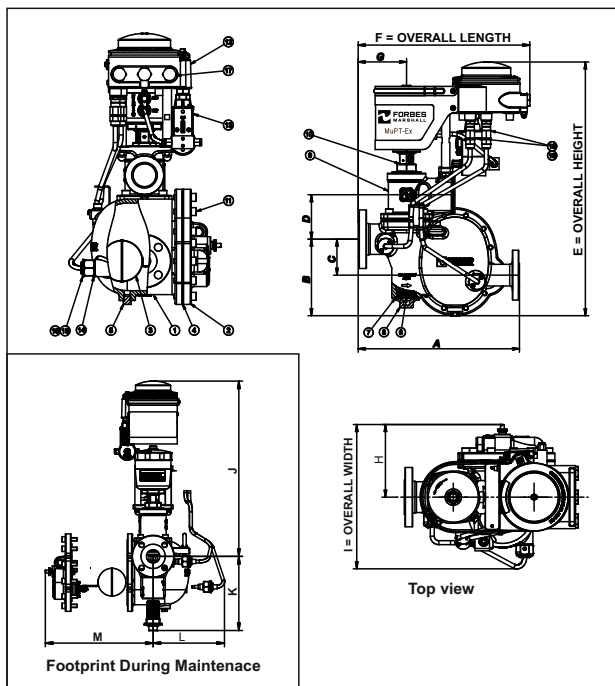

Fig.3.2
The MuPT-Ex is an integrated steam trapping and condensate recovery solution including a diverting & trapping system and controlling & monitoring system specifically developed for multi-utility process equipment in API Pharma/Chemical industries. Product is developed to remove condensate from the process downstream as well as divert contaminated condensate. There is a sensing element (15) (refer fig 3.2) provided to check the quality of condensate continuously reaching the inlet of the product, which helps in the detection and diversion of contaminated condensate and recovery of quality condensate. This Sensor 1 (15) measures the TDS and temperature of incoming media, be it condensate or utility. Based on the measured parameters, the control unit decides to either recover the uncontaminated condensate or bypass utilities and uncontaminated condensate. This improves the overall condensate recovery factor. This segregation of condensate and utilities happens at the process level itself. Product also indicates whether the trap is currently in Bypass mode or Trapping mode. This indication for operation in Trapping mode or Bypass mode & Trap performance condition is displayed locally on the product itself with the help of a blinking LED.
Switching to bypass and trapping mode is done with the help of a pneumatically actuated Diversion Unit (9 & 10) (refer fig 3.2). When switched to bypass mode, the utility or contaminated condensate leaves the product through the bypass outlet. And when switched to trapping mode, the uncontaminated condensate is diverted to the steam trap. The steam trap unit contains a twin orifice mechanism to handle large